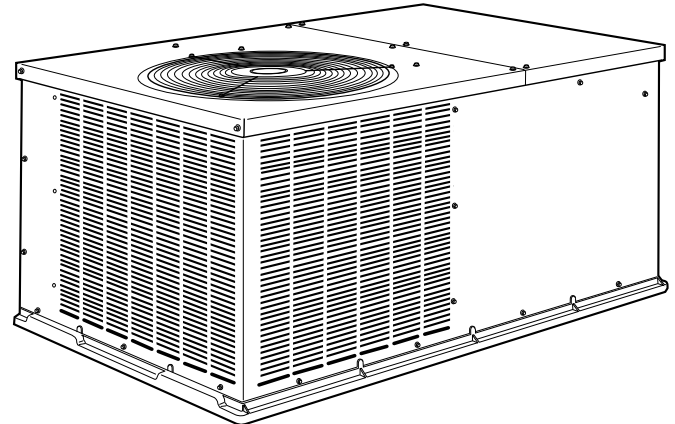

Fig. 1 — Unit 564A and 764A (Size 036 Shown)
1. Read and become familiar with these installation instructions before installing this unit (Fig. 1). Retain these instructions for future maintenance and repair.